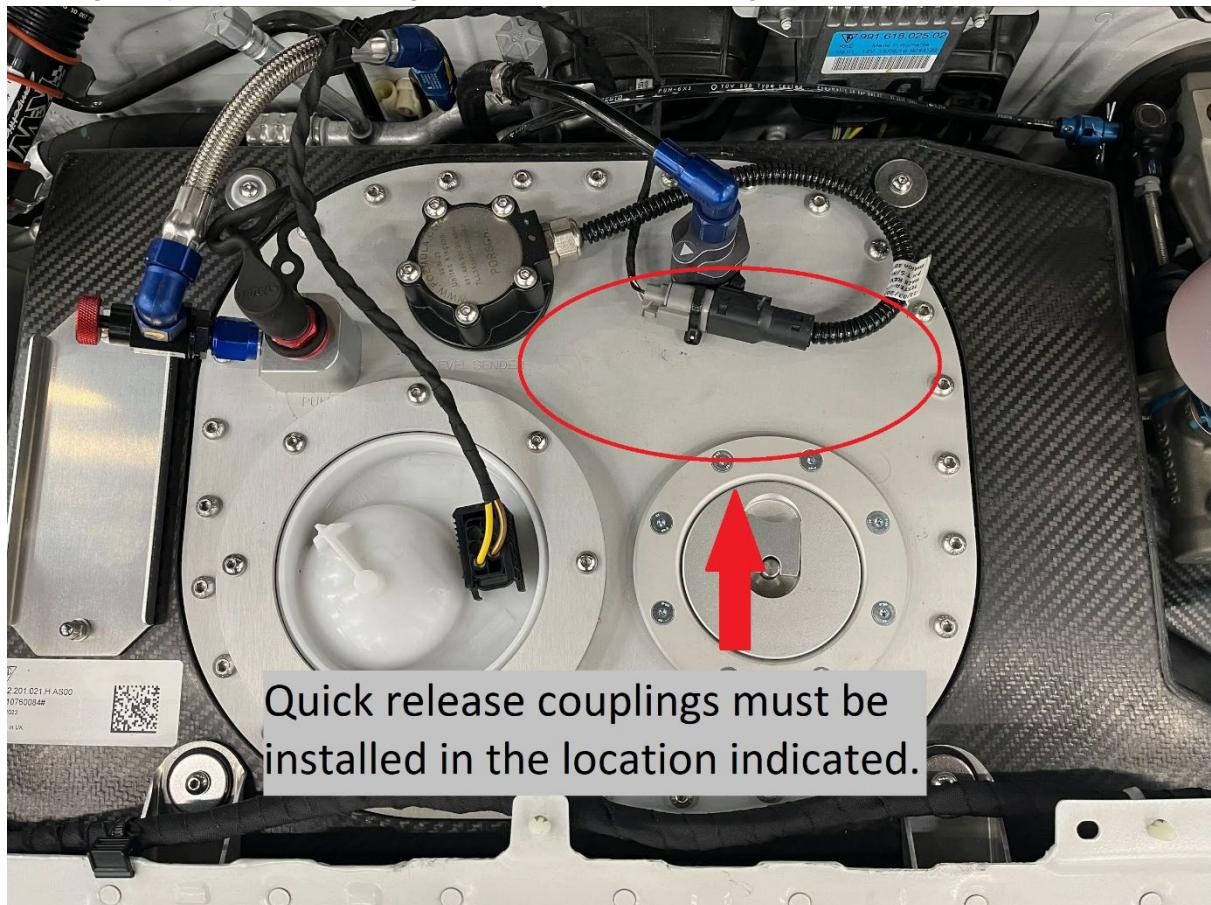

Figure 1: Applicable when using 991 Closed loop fueling kit
*If using 991 parts follow mounting locations shown below in Figure 1